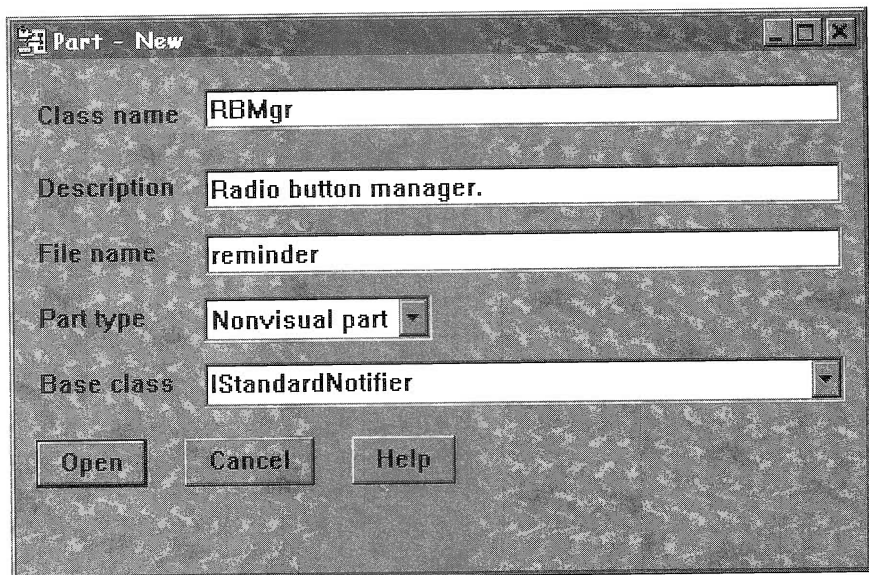

Figure 137: Creating the RBMgr nonvisual part
- ☐ Create a new nonvisual part called **RBMgr** as shown in Figure 137.